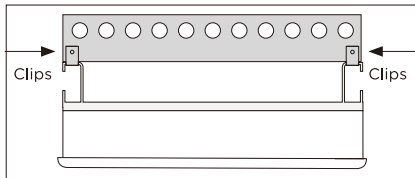

Figure 8: Top view.
- Screw the top side of the Inverter to the mounting plate with the screws provided, as shown in Figure 8.